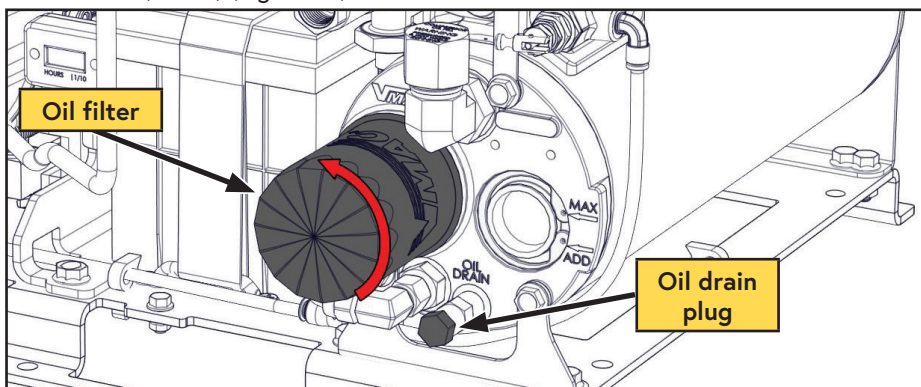

Figure 37 — Compressor oil filter
- Remove the oil drain plug and drain the oil into a container with a capacity of at least 4 L (1 USG) (Figure 37).
- Remove the oil filter (Figure 37 on page 58).